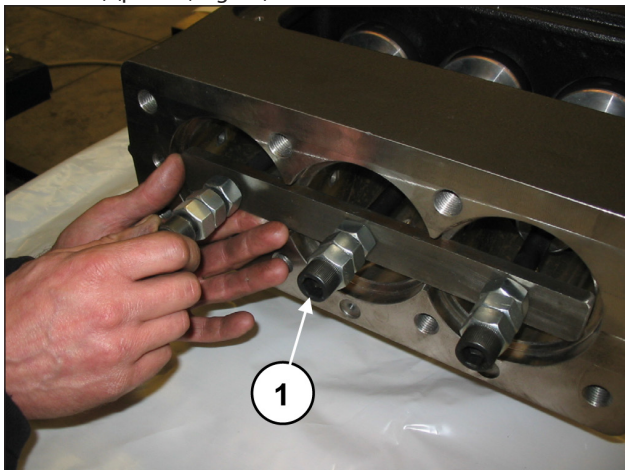

Fig. 39
Advance the half supports in the direction of the hydraulic part and lock them in place using the special tool (code 27566200) (pos. ①, Fig. 39).